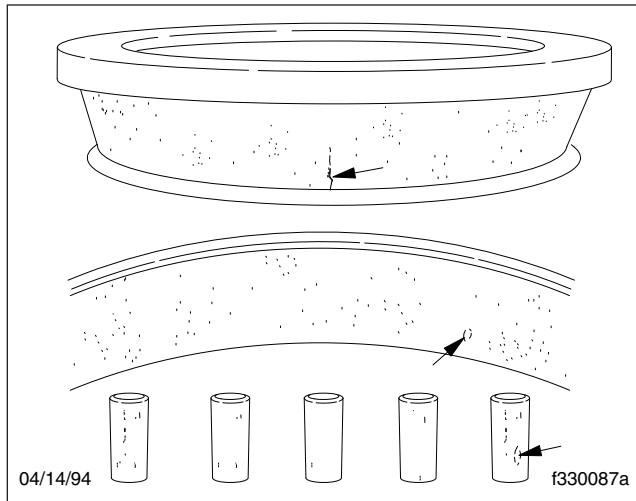

Fig. 6, Indentations, Cracks, or Breaks in Bearing Surfaces
- Visible step wear, particularly at the small end of the roller track. Deep indentations, cracks, or breaks in the cone surfaces. See Fig. 6.